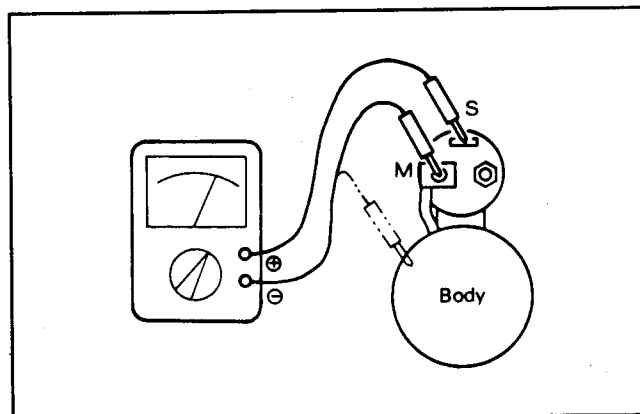

Figure 32
10. Check the magnetic switch for continuity between terminals "S" and "M" and between terminals "S" and body (Fig. 32). If there is continuity (or zero ohm is indicated), replace the magnetic switch.